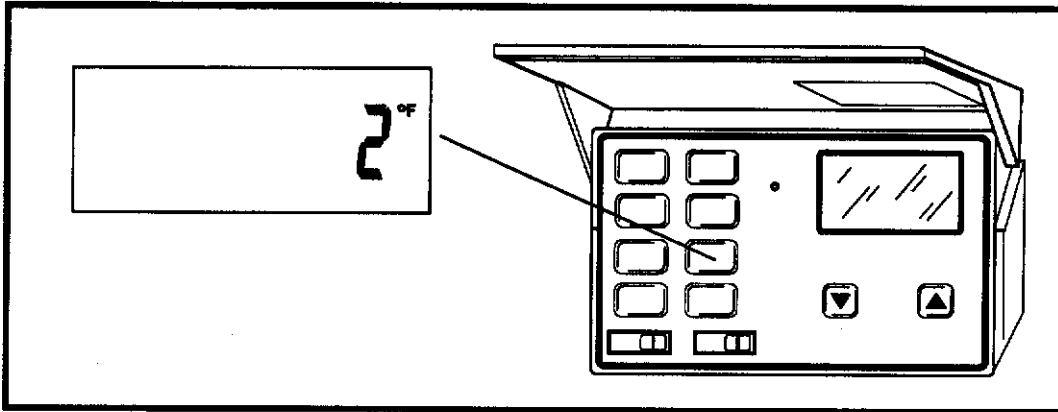

figure A-8
1. Press SPAN key. The display will show the current setting (fig. A-8).